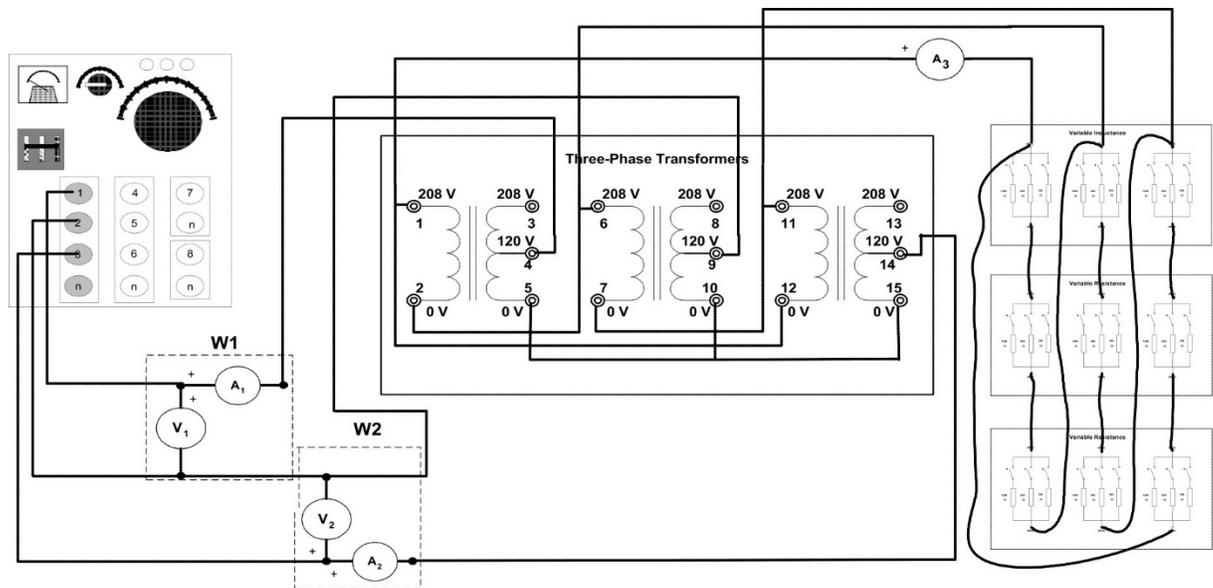

FIGURE 5.9
- 2) Analyze the circuit shown in Figure 5.9 assuming that the transformer ratio of every single-phase transformer is 1:f3 (that is, the 120 V winding is the primary and the 208 V winding is the secondary).
- Step 1: Connect the circuit shown in Figure 5.9. Neutral connection will not be used. Use the fixed output of the power supply as your power source. The single-phase transformer ratio to be used is 1:f3. The 120v winding is the primary and the 208v winding is the secondary.